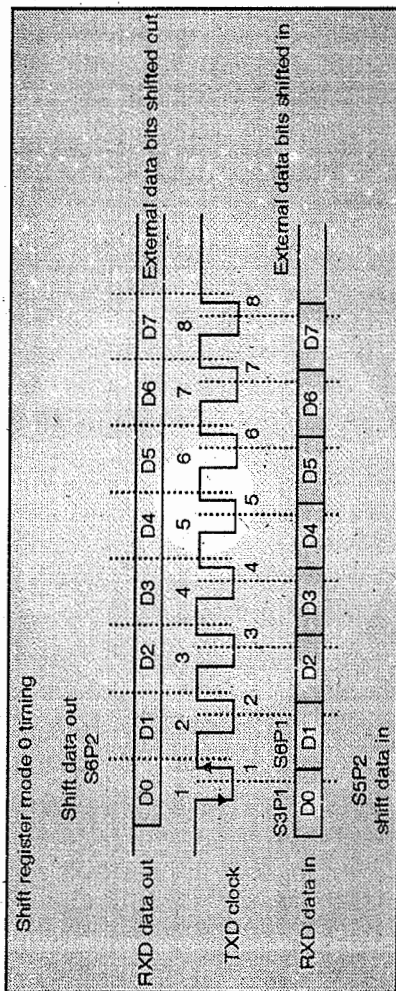

Fig. 1.21.2 : Shift register mode 0 timing
- The input to the shift register is data and clock. The serial data is transmitted and received through the RxD line. The clock is generated by the TxD line. The TxD shift clock is a square wave, low for states S3, S4 and S5 of the machine cycle, while high for S6, S1 and S2 as shown in Fig. 1.21.2.